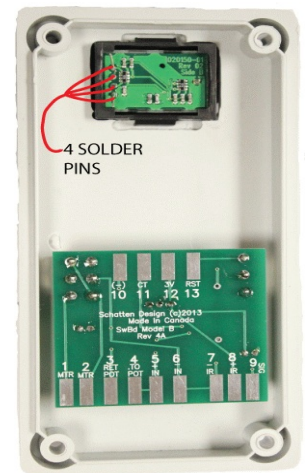

fig 4
- 3) Mount the circuit board to the cover by inserting the toggle switches through the holes in the cover. Note the alignment of the circuit board as shown (fig 4).